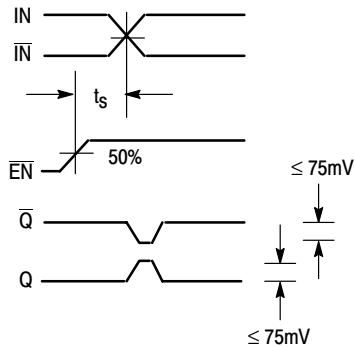

Figure 1. Setup Time
- The setup time is the minimum time that \overline{EN} must be asserted prior to the next transition of IN/ \overline{IN} to prevent an output response greater than $\pm 75\text{ mV}$ to that IN/ \overline{IN} transition (see Figure 1).